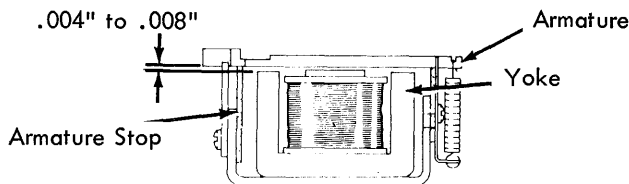

FIGURE 29. Armature Stop
3. Armature Stop - With the armature manually attracted, adjust for a clearance of .004" to .008" between the armatures and yokes (Fig. 29 - see Fig. 28 for assembly end view). Measure clearances at the outside armatures (T2 & R5).